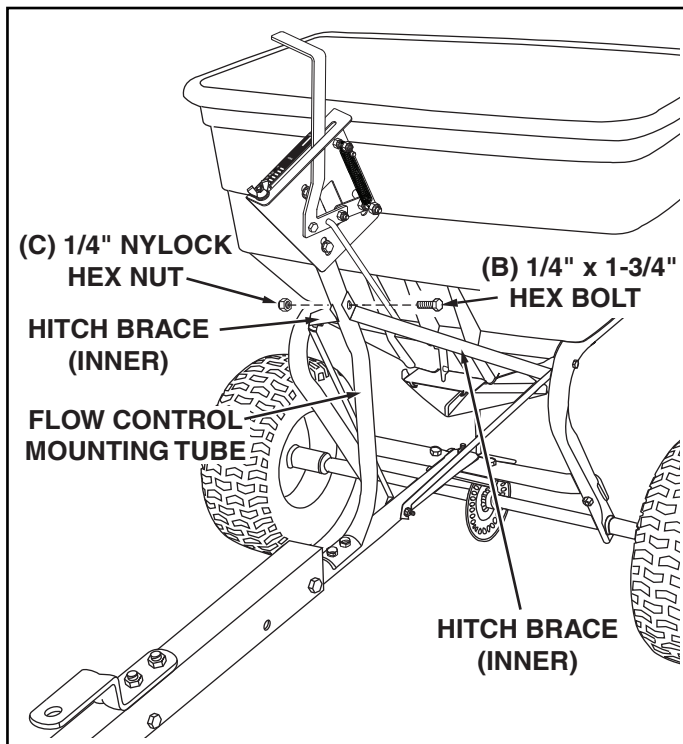

FIGURE 8
14. Assemble the two **INNER** hitch braces to the flow control mounting tube using a 1/4" x 1-3/4" hex bolt (B) and a 1/4" nylock hex nut (C). **DO NOT TIGHTEN YET.** See figure 8.